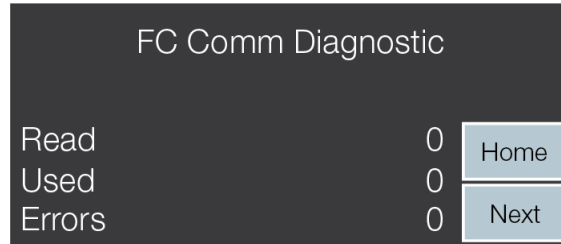

Figure 17. FC Pressure Sensor Diagnostic Screen
The FCC displays read-only communications diagnostic counters of serial communications between the FCC and ATG Fuel Conditioner (FC) functions (see Figure 17).